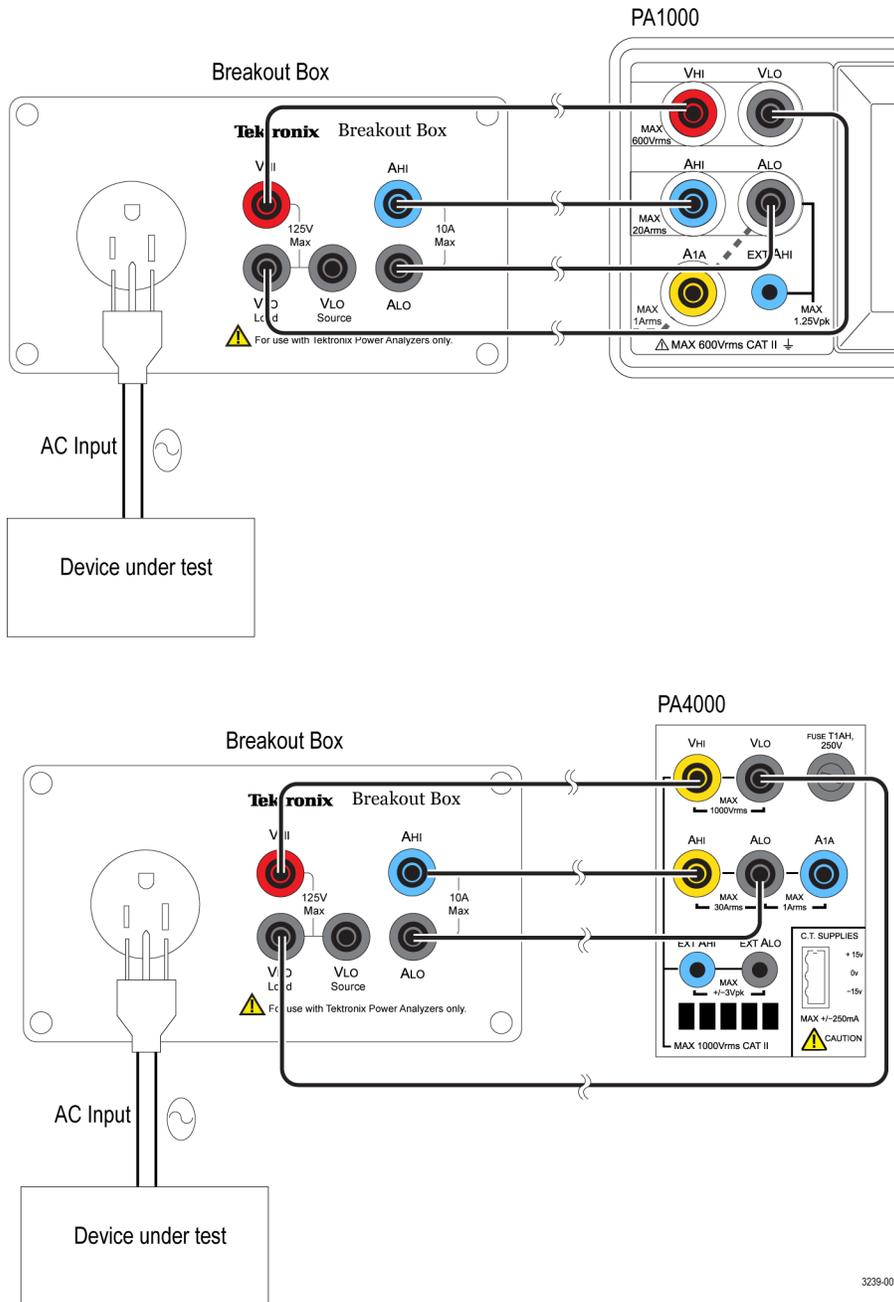
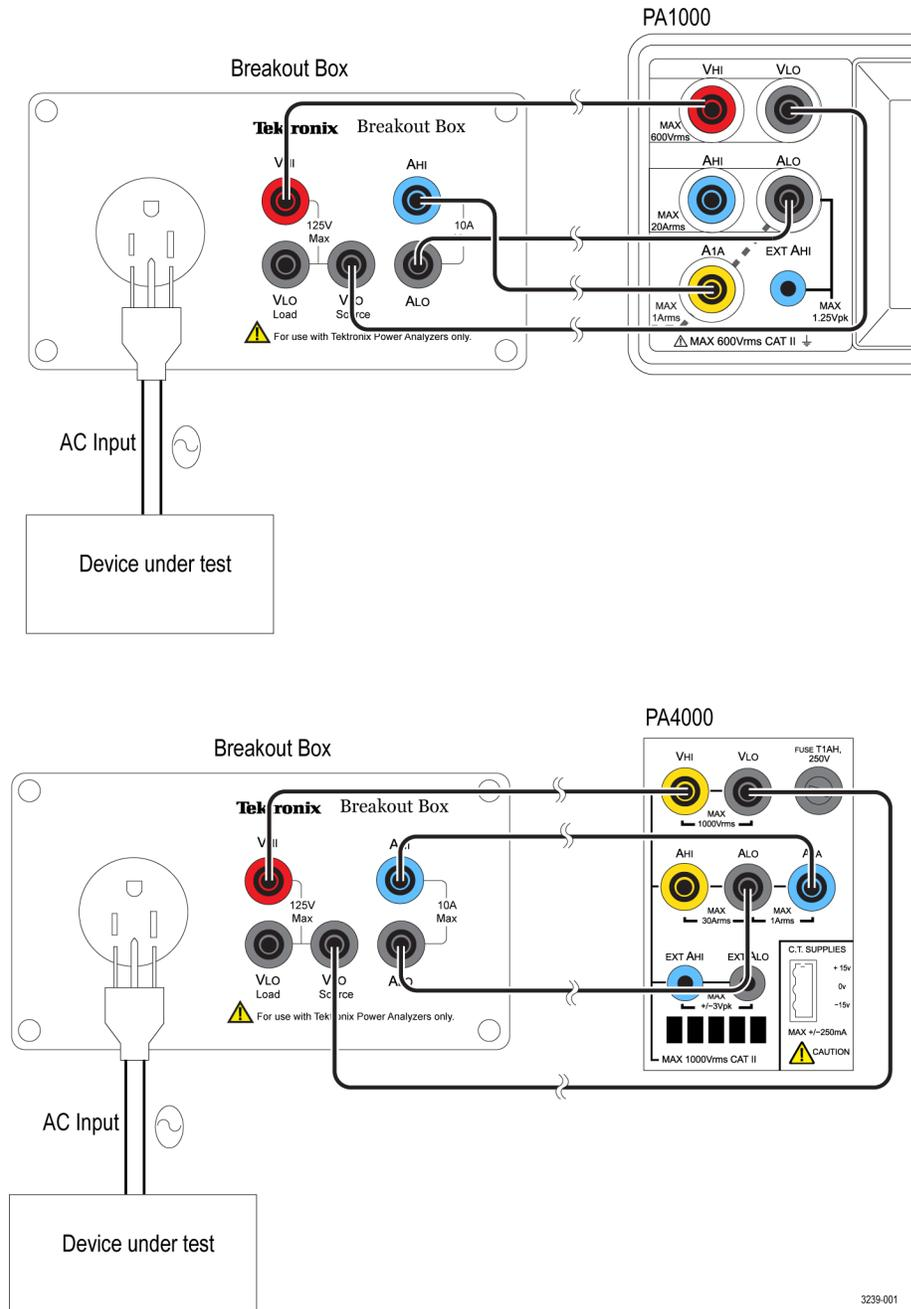

Figure 3: Typical connection for currents above 500 mA
Figure 4: Typical connection for currents of 500 mA or less
- Using the test leads provided with the Tektronix power analyzer, make the voltage and current connections between the breakout box and the input jacks on the power analyzer. Typical connections are shown for the PA1000 and PA4000 power analyzers on the following pages. (See Figure 3 on page 3.) (See Figure 4 on page 4.)